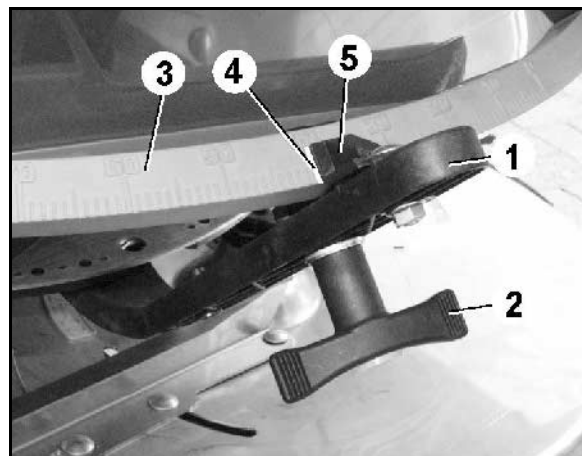

Fig. 11
The rate as per setting chart is then determined by means of the setting lever (Fig. 11/1).
2. Undo the wing nut (Fig. 11/2).
3. Look for the required slider position on the scale (Fig. 11/3).
4. Adjust the read-off edge (Fig. 11/4) of the setting lever pointer (Fig. 11/5) so that it corresponds to the scale value.
5. Retighten the wing nut (Fig. 11/2).